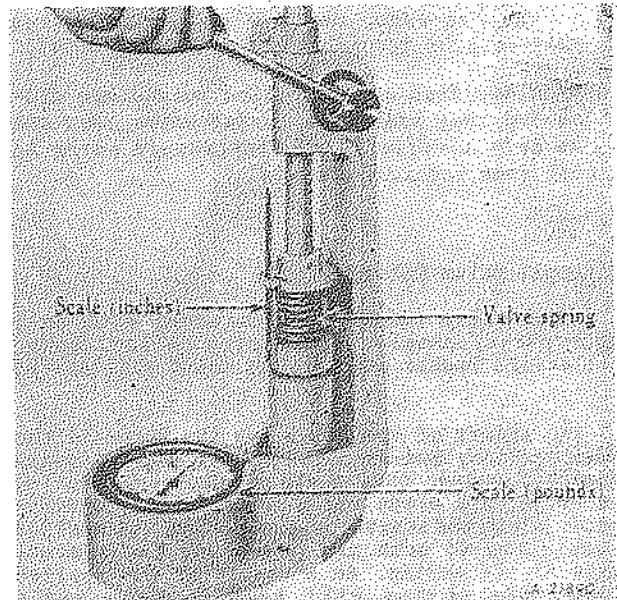

Fig. 11 - Use a valve spring testing tool or similar tool to check spring tension
2. Test valve springs with damper in position. Test tension of each valve spring and valve open length with a valve-spring tester (Fig. 11). Check valve springs at 1.477" length, and replace if pressure is less than 142 pounds. If a spring testing machine is not available place a new spring end to end on the old spring and compress one against the other in a vice or press. This will reveal a weak spring.